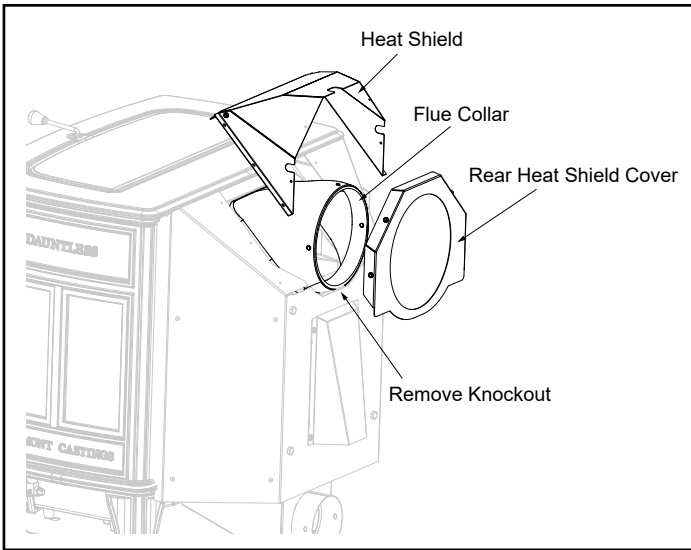

Figure 5.7
3. Turn flue collar to horizontal position. Inspect rope gasket located on the rear cast housing to ensure a leak free seal. Re-install flue collar, heat shield and heat shield cover, Figure 5.7.
Note: There is a knockout on the rear air jacket that will need to be removed prior to installing the flue collar for it to fit properly to the unit, Figure 5.7.